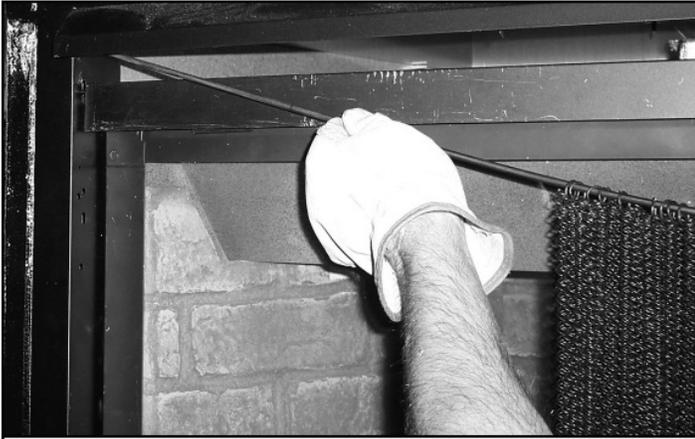

Figure 12.15 Insert Rod Into Side Columns
- Reinstall mesh firescreen (see Figure 12.15).
- Insert one end of screen rod into the hole located in the column as far as it will go. See Figure 12.15